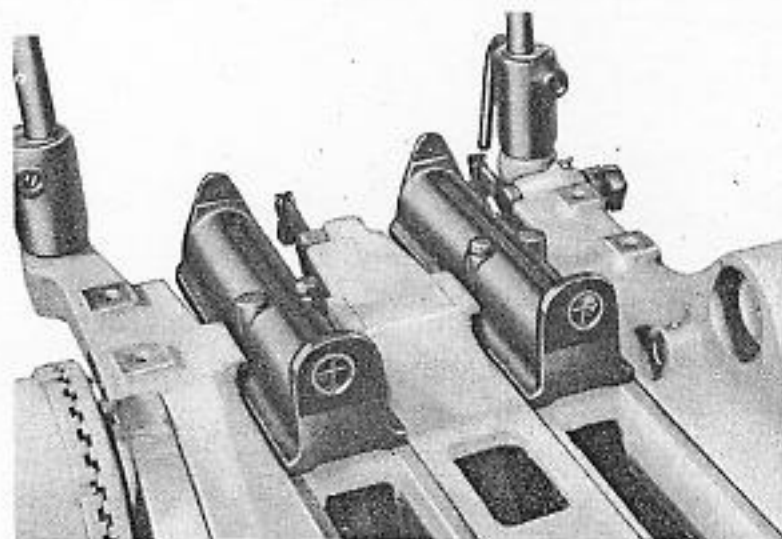

Figure 30. Cam Generating Sights in Cradle.
3. Cam Generating Sights Place the two cam generating sight assemblies (454152—R.H. and 454153—L.H.), located in the cam generating-sight box (482550), in the gun slots of the cradle and secure them by inserting the attaching screws (482560) in the tapped holes in the cradle. The sights cannot be secured in the wrong gun slots, because the tapped holes will not line up unless the sights are correctly located. Do not tighten the screws with more than very light wrench pressure. See Fig. 30.